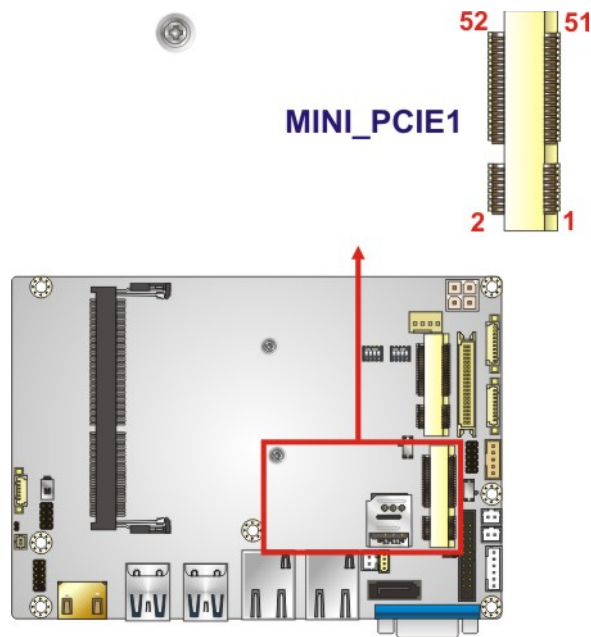

Figure 3-12: PCIe Mini Card Slot (with SIM Card Socket) Location
- CN Location: See Figure 3-12